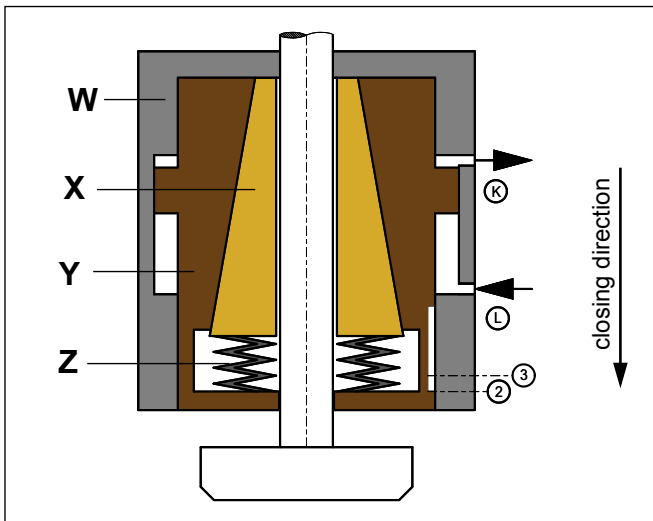

Fig. 1: Design of the SITEMA PowerStroke (clamping released)
The clamping system consists of the clamping sleeve (X) Fig. 1 and the clamping ring (Y) Fig. 1 which are braced against each other by springs (Z) Fig. 1. The clamping ring is supported in the housing (W) Fig. 1 so that it can be moved pneumatically via the pressure ports L and K.
If the required minimum pressure is applied to the port L (port K pressure-free), then the clamping ring moves counter to the closing direction until it reaches the stop, thereby opening the clamping system (see Fig. 1).